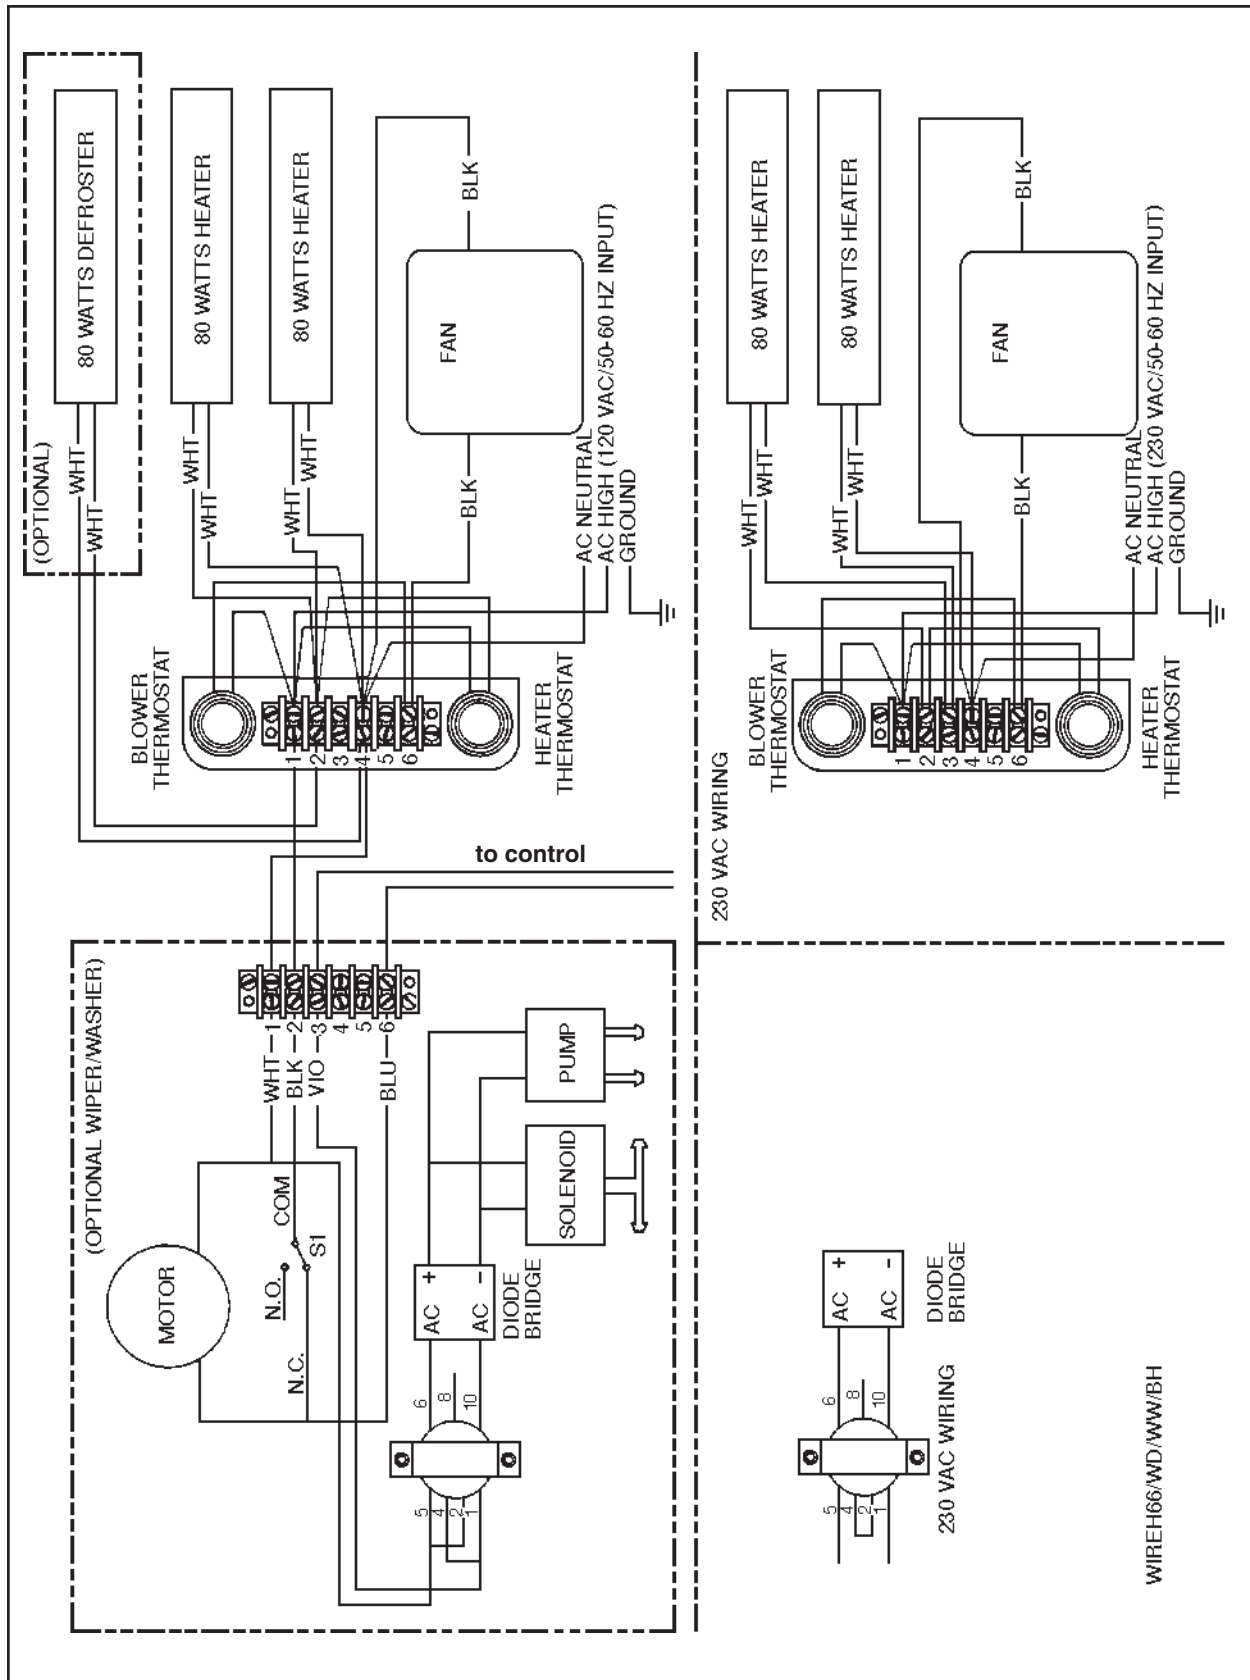
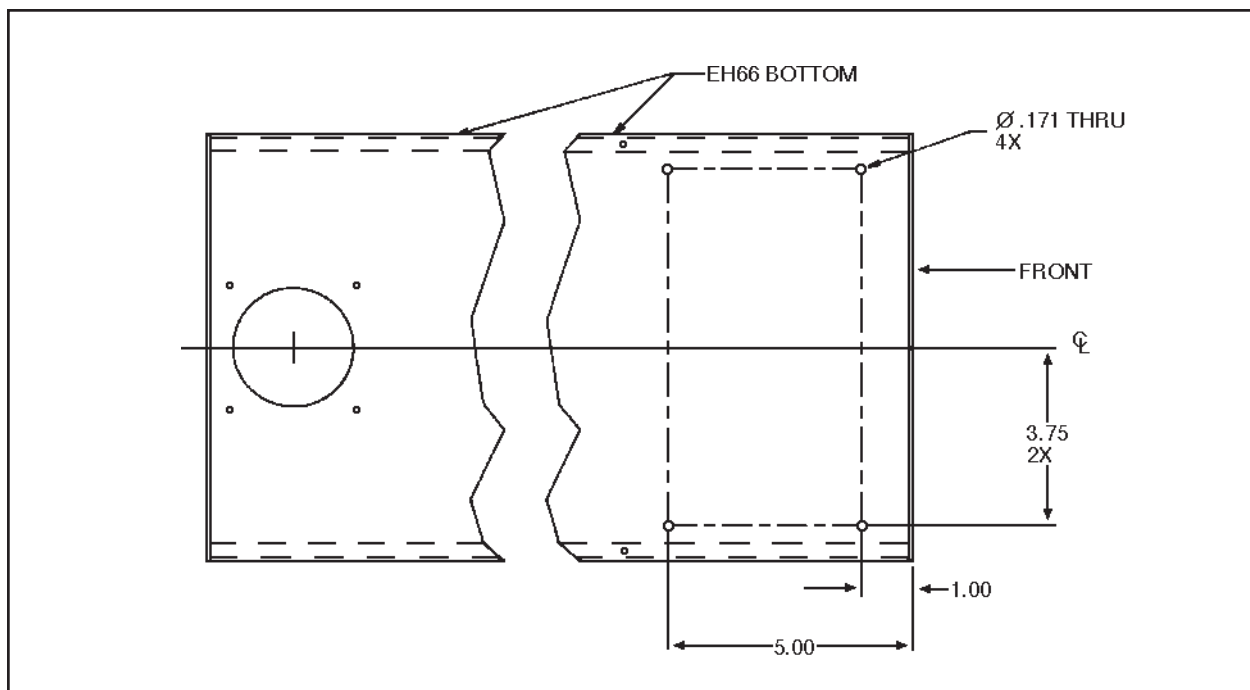

Figure 2. Wiring Diagram for Window Defroster, Wiper/Washer and Blower/Heater Assemblies
Figure 8. Mounting Hole Dimensions
Factory installed heater and blower assemblies are factory pre-wired and only require connection of power to the terminal block (see Figure 2). Refer to Section 4.6 for field installed heater/blower kits.
4. Loosen the cable gland nuts on the back of the enclosure (1/2-inch gland for video cable, 3/8-inch gland for power cable). Route the camera cables through the appropriate glands and connect to the camera. Wire the enclosure per wiring diagram provided (see Figure 2). Tighten the gland nuts for a snug fit around the cables.
2. If necessary, lay out the locations of the four (4) .171-inch diameter mounting holes using the dimensions given in Figure 8.
4. Attach the wiper box using the four (4) mounting holes, inserting the wire leads through one of the rubber grommets.
6. Attach wiper wire leads inside the enclosure as shown in Figure 2.
8. Attach the water reservoir bottle to the rear of the EH66 enclosure by removing the two (2) top acorn nuts.
1. Remove the round cap on the rear of the enclosure and the two (2) 8-32 screws and nuts located on each side of the opening above the horizontal line.
2. Remove the two (2) acorn nuts holding the air box to the heater/blower assembly; remove the air box.
3. Install the assembly in the enclosure utilizing the two (2) open holes for mounting; reinstall the air box on the outside of the enclosure and secure the assembly with the two (2) acorn nuts.
4. Mount the two (2) heater strips onto the sides of the enclosure with the four (4) sheet metal screws provided.
5. Wire input power to the terminal block on the top of the heater/blower assembly as shown in Figure 2.